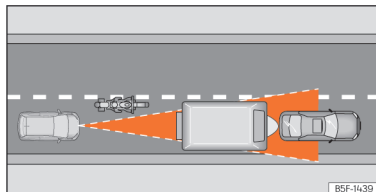

Fig. 121 Motorcyclist ahead out of range of the radar sensor.
- Vehicles that are not aligned while driving or that are outside the sensor's detection area, such as motorcycles »» **Fig. 121.**